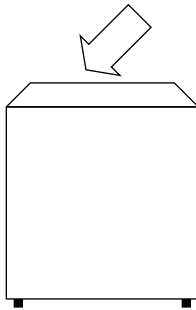

Figure 2.11. Close the take-up compartment cover after you remove the take-up cassette.
- Close the take-up compartment cover when the AccuSet is idle. (See Figure 2.11 on page 2-22.)